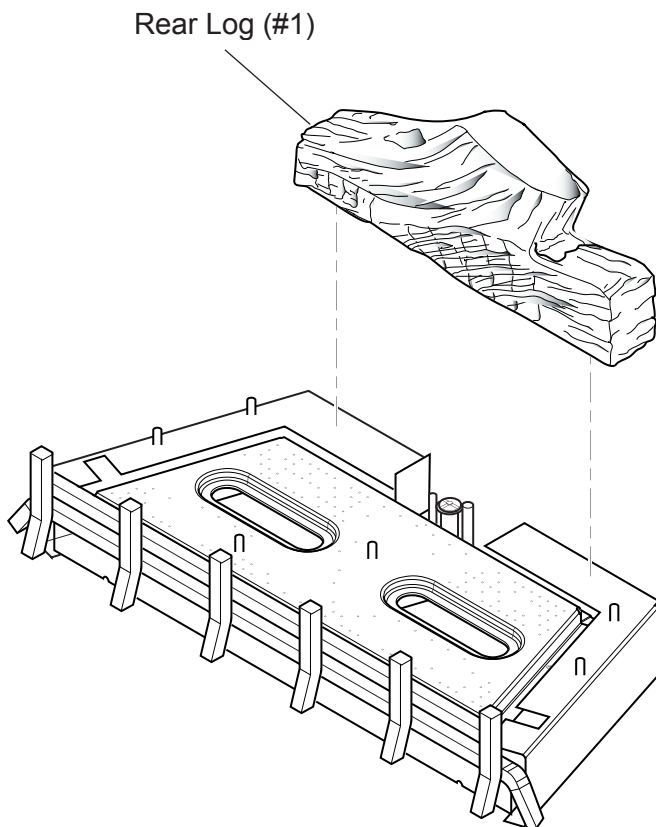

Figure 18 - Installing Rear Log #1
2. Carefully remove seven (7) logs from wrapping.
3. Place rear log (#1) against back of firebox. *See Figure 18.*